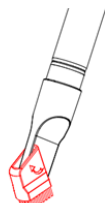

Fig.11
2. As in fig. 11, open the other side with bristles of the compressed brush as the mark of an arrow to clean the sofa or other narrow or scratch-sensitive surfaces.